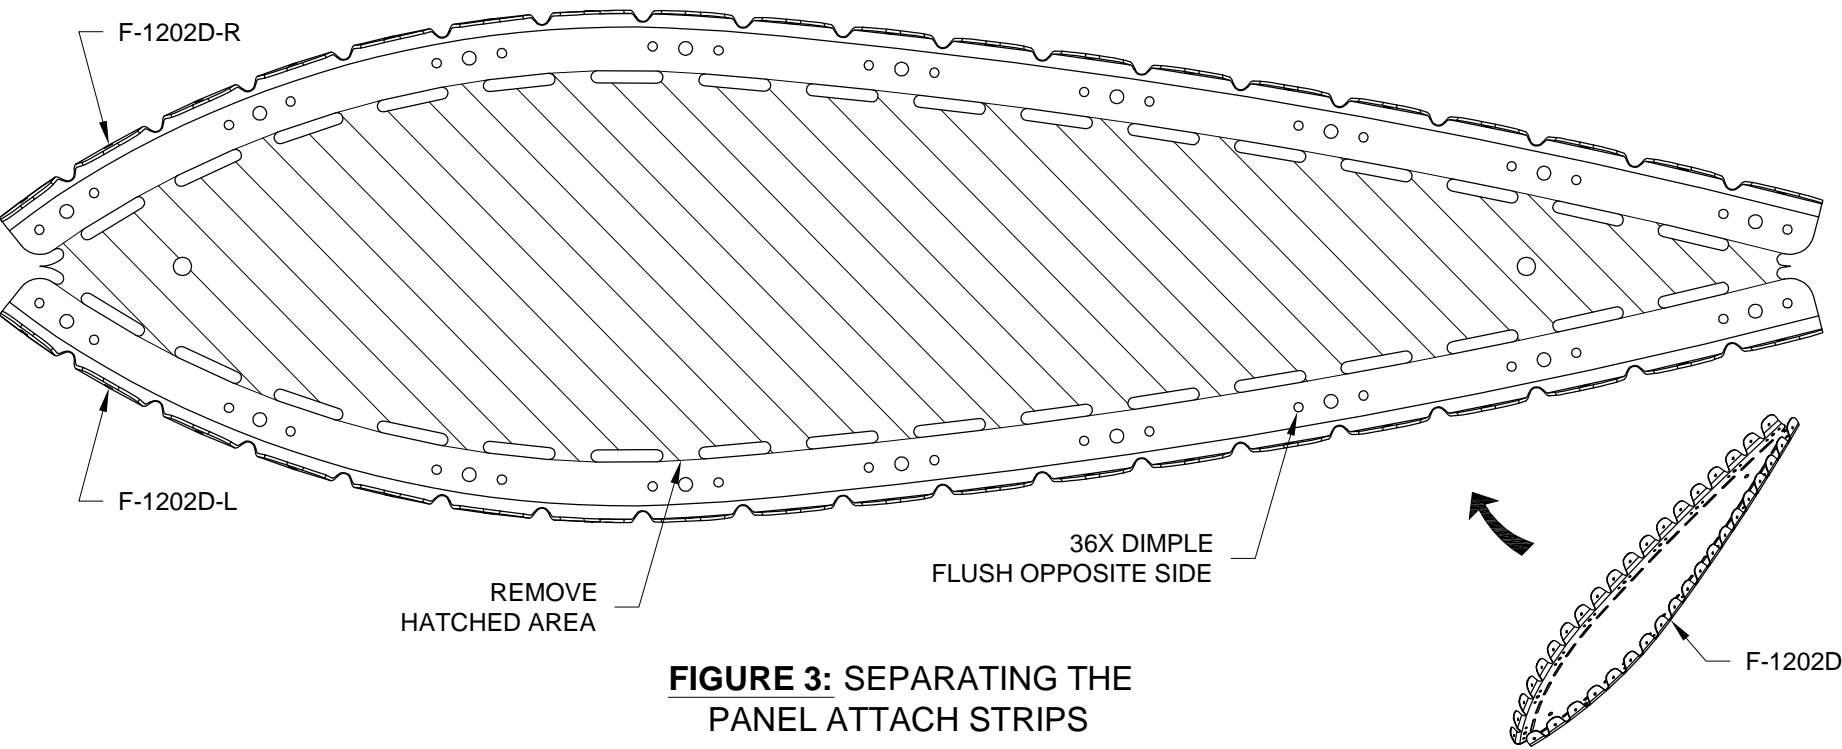

FIGURE 3: SEPARATING THE PANEL ATTACH STRIPS
Step 4: Separate the F-1202D, then dimple the F-01202D-L & -R as shown in Figure 3.